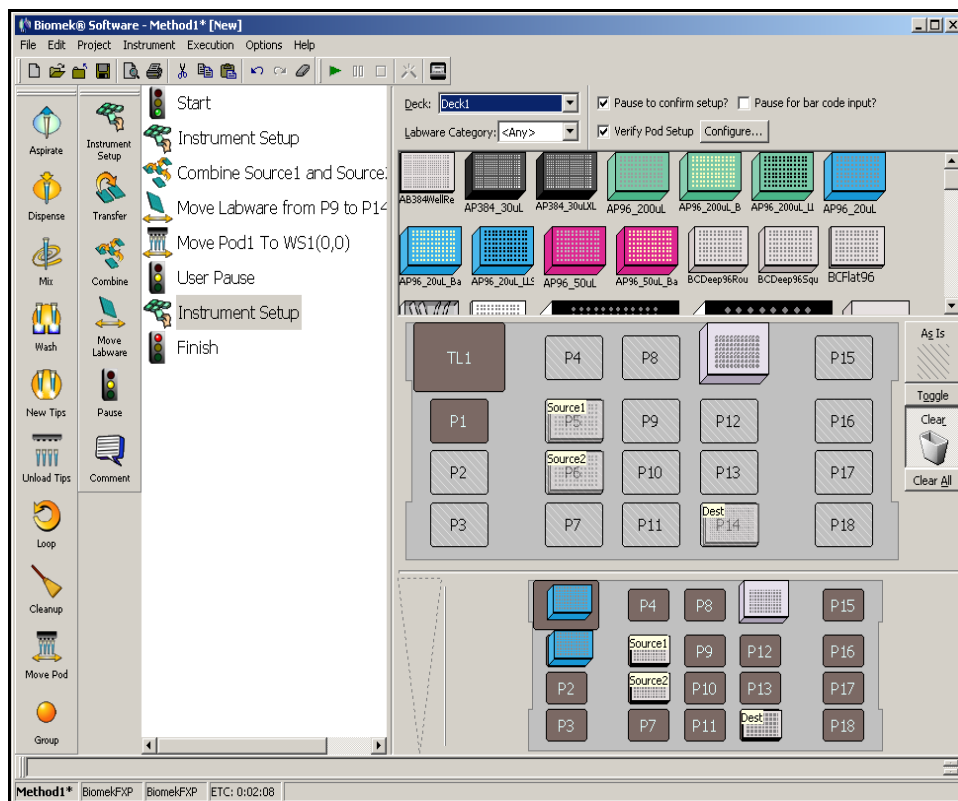

Figure 2-14. Using Clear to remove used tip boxes
3. Select **Clear** and then click on **TL1** and **P1**. This removes the used tip boxes. Now the main editor should look like Figure 2-14.